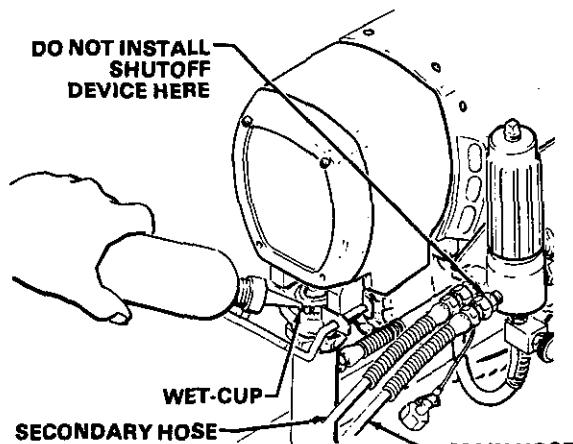

Fig 3
3. Never install any shutoff device between the filter and the main hose. See Fig 3.
3. **Fill Packing Nut/Wet-Cup** (See Fig 3.) Fill the packing nut/wet-cup 1/3 full with Graco Throat Seal Liquid (TSL), supplied.